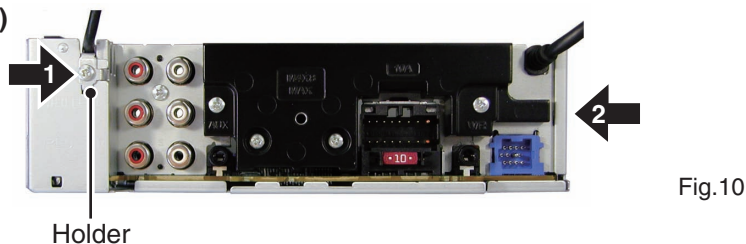

Fig.10
● Removing the Tuner Amp Unit(Fig.10, 11)
and then remove the Holder.(Fig.10)
- ➡ 2 Remove the screw.(Fig.10)